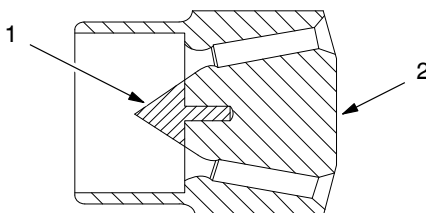

Figure 3-3 Removing the Nozzle Cone
1. See Figure 3-3. Before installing a sprayhead on the spray gun, remove the nozzle cone (1) from the interior of the sprayhead base (2) with a pair of pliers. (The nozzle cone is only used with the original Tribomatic spray gun.)